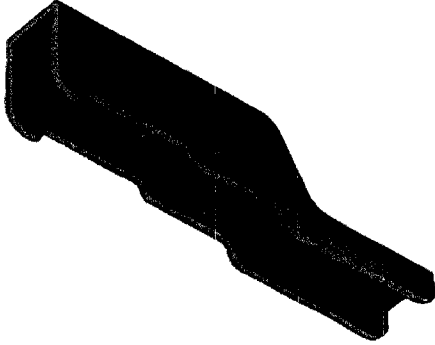

Fig. 22 — KS-16576, List 5 Designation Plate
6.15 The KS-16576, List 5 designation plate, Fig. 22, is a red plastic hood designed to cover the wire-wrap terminals on the jumper wire side of 300-type connectors.